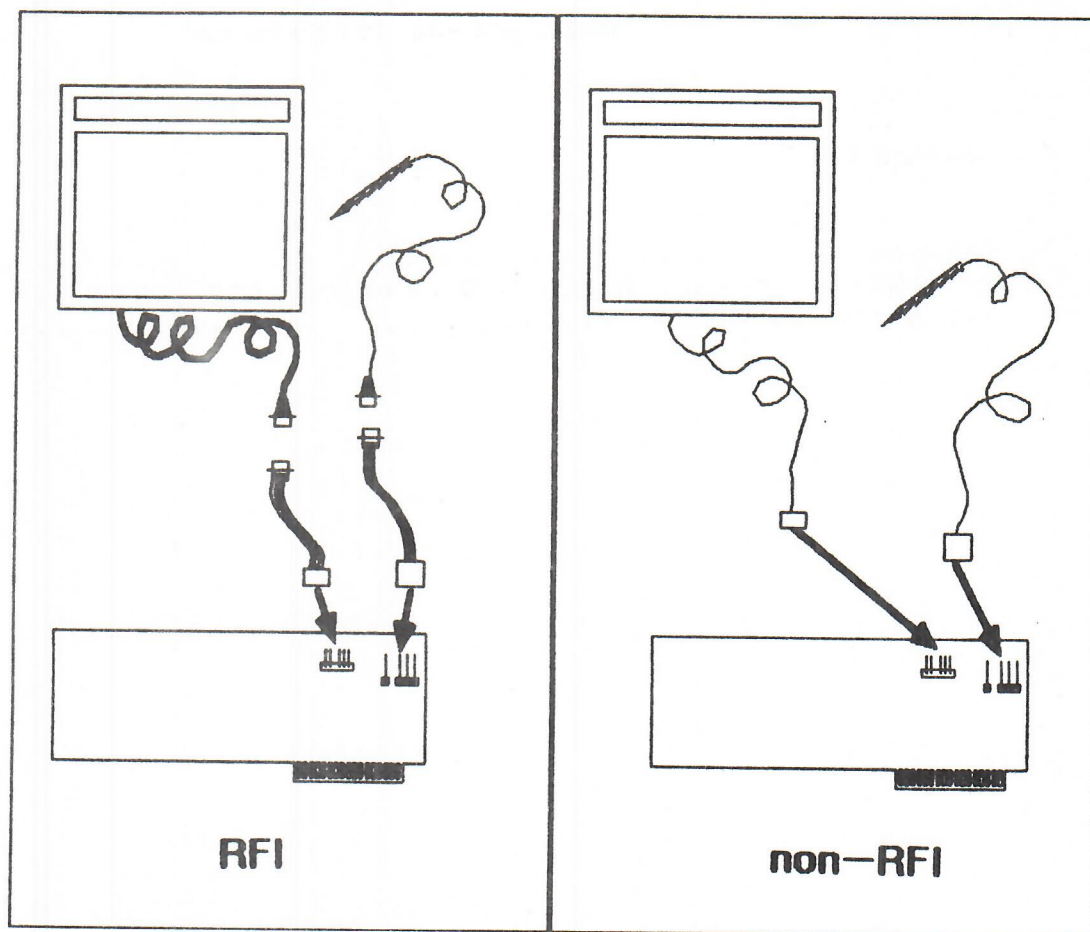
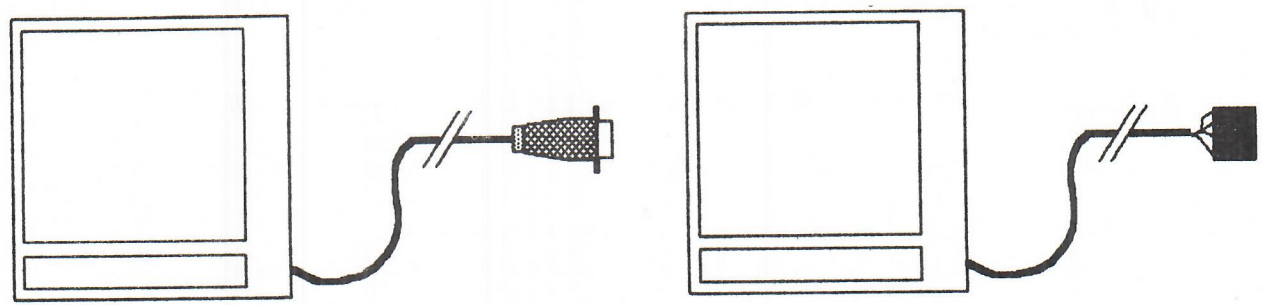
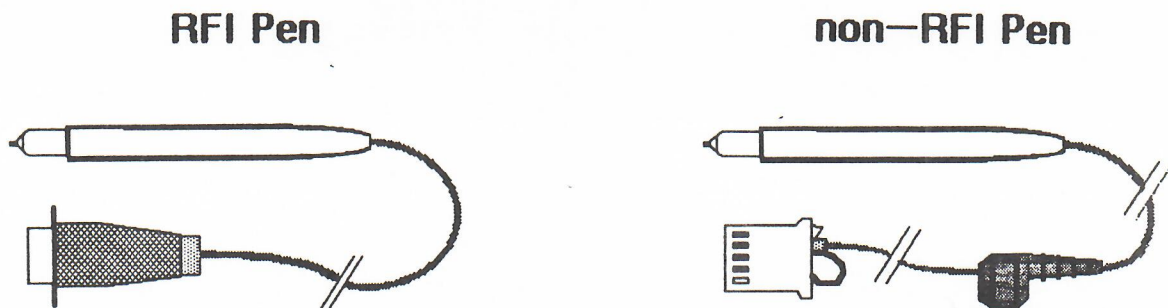

Figure 1
Figure 2
Figure 4
Refer to Figure 1, which shows the configuration for the RFI and non-RFI versions of the Graphics Tablet. Notice that the only difference for the RFI configuration is that the tablet and the pen do not connect directly to the Interface Card. Instead, they connect to a short cable, and the cable connects to the Interface Card.
1. Connect the RFI Graphics Tablet (see Figure 2) to the short cable with the colored plastic connector. Connect the other end of the short cable to the five-pronged connector on the RFI Interface Card. (See Figure 1.)
2. Connect the RFI Pen (see Figure 4) to the short cable with the white plastic connector. Connect the other end of the short cable to the four-pronged connector on the RFI Interface Card. (See Figure 1.)